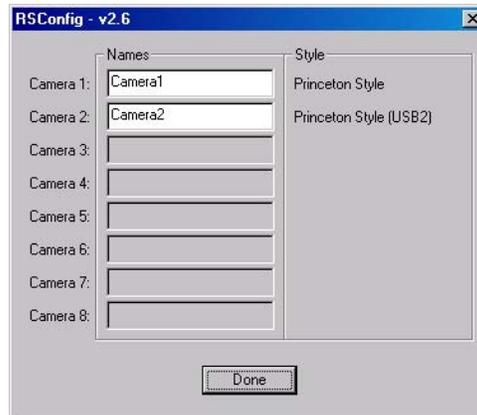

Figure 71. RSConfig dialog box: Two Camera Styles
4. Run RSConfig.exe (accessible from the **Windows|Start|Programs|PI Acton** menu). If the USB 2.0 camera is listed as Camera 2 (Princeton Style (USB2) in Figure 71), you will have to edit the PVCAM.INI file.